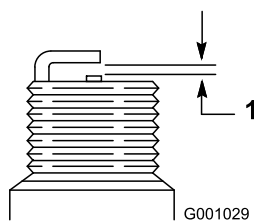

Figure 59
- Set the gap between the electrodes on a new spark plug at 0.030 inch (0.76 mm) (Figure 59).